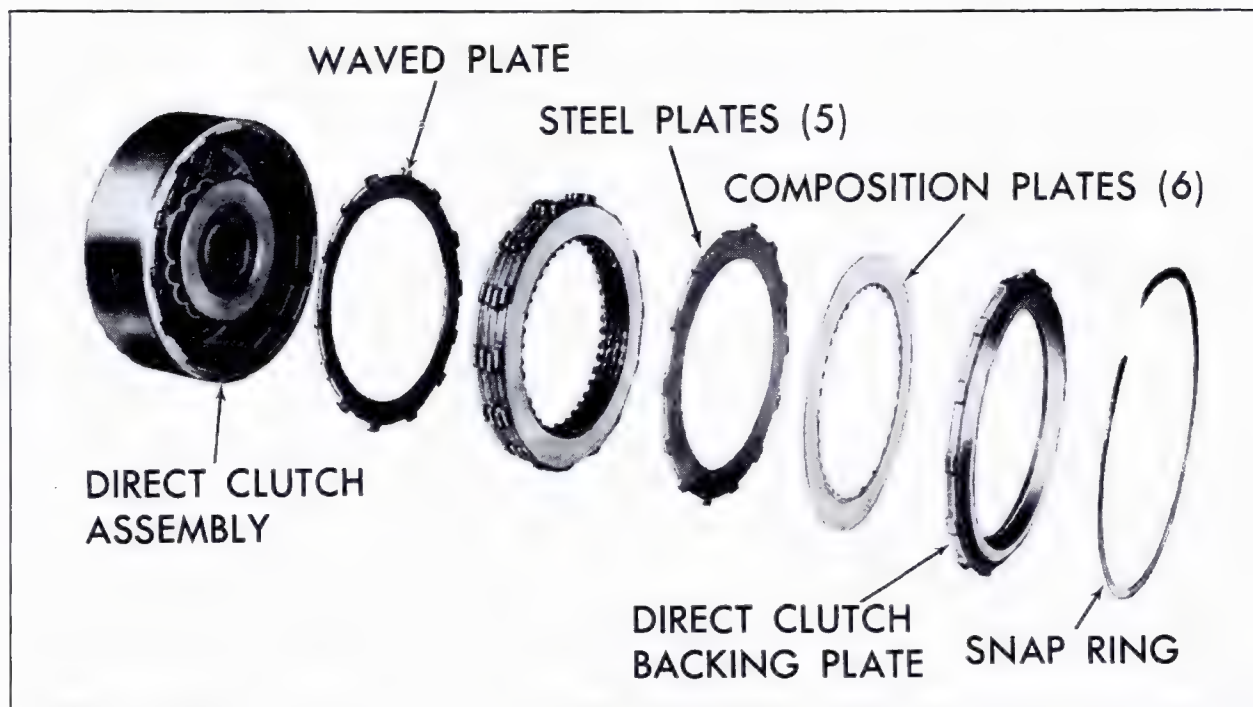

Fig. 7-196 Direct Clutch Disassembled
d. Remove direct clutch backing plate and six composition and six steel clutch plates, Fig. 7-196.
f. Using Clutch Spring Compressor, J-4670, Rear Clutch Spring Compressor, J-6129, or an arbor press, and Adapter, J-21664, Fig. 7-196, compress spring retainer, being careful that retainer does not get caught in snap ring groove, and install snap ring with Snap Ring Pliers, J-8059 or J-5586. Remove tools.